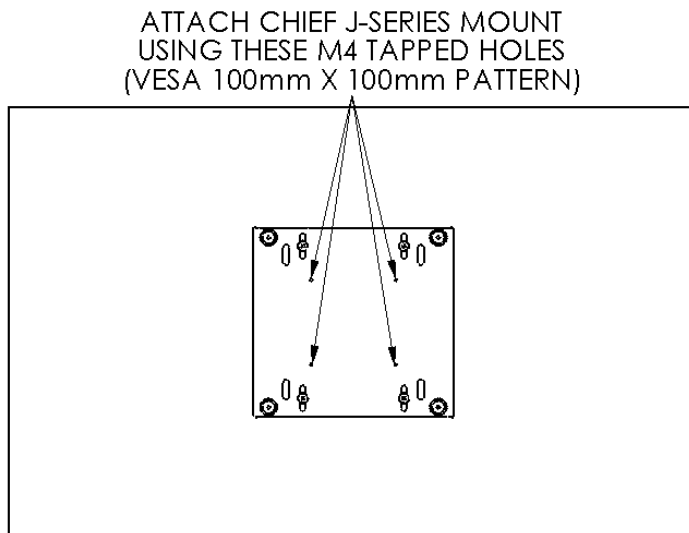

Figure 6
3. **J-Series Mounting:** Per mount instructions, use the 100mm x 100mm tapped holes on bracket to attach screen to J-Series mount (see Figure 6).